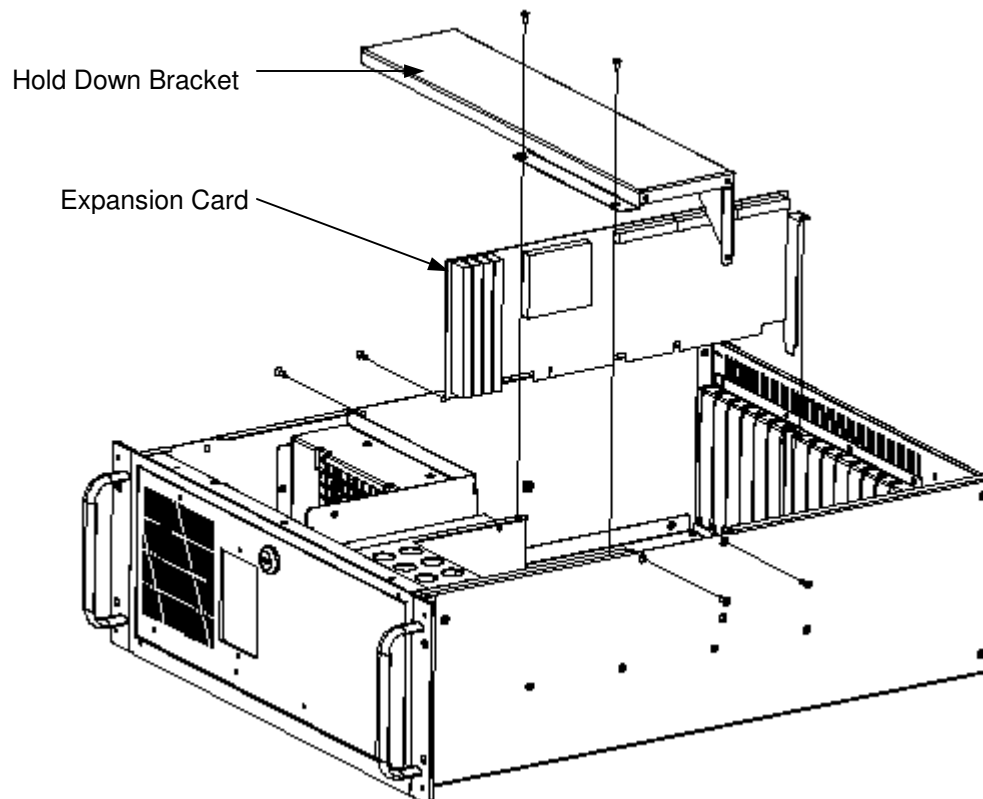

Figure 2-16. Installing ISA or PCI Boards
3. Unscrew and remove the hold-down bar from the unit (see Figure 2-16).
3. Remove the two screws from the hold down bracket and remove the hold down bracket (see Figure 2-16).